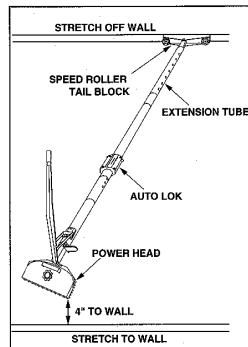

Figure 1
- A. Place Power Head 4 inches from starting wall at the prescribed angle for the kind of carpet you are installing. (See figure 1.) See stretch pattern diagrams on pages 5-7 for general rules, but always follow the carpet manufacturer's recommendations.